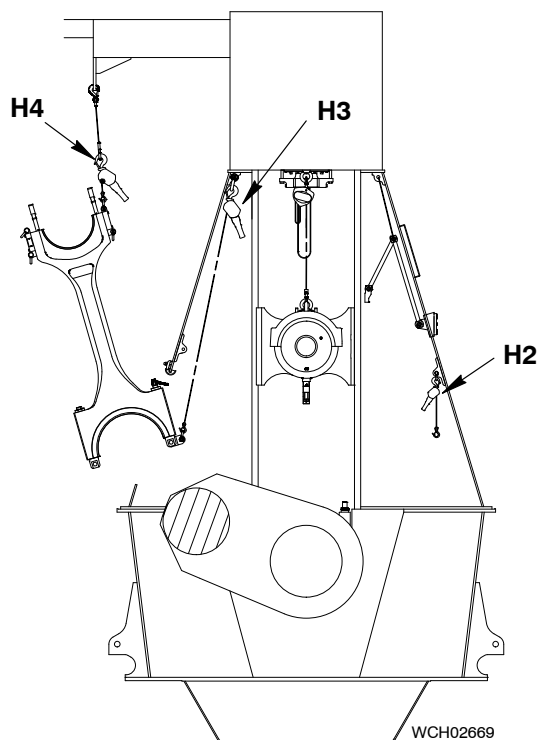

Fig. 6
- 23) Remove the manual ratchet (H2 Fig. 6) from the lug (3) on the top of the rod (2).